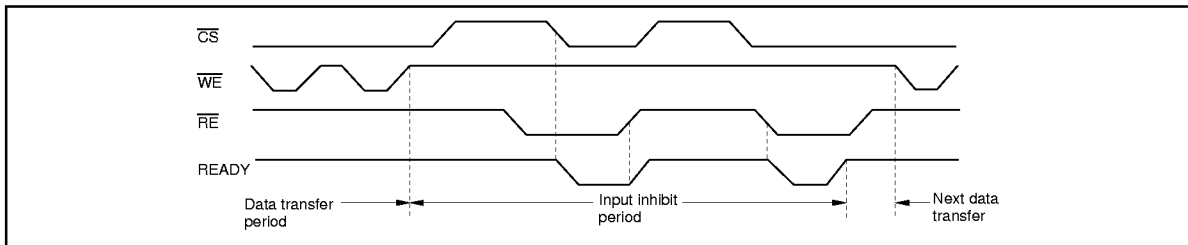

Figure 17 READY Output Timing (When It Is Made Available by \overline{CS} and \overline{RE})
- b. READY is mode available by \overline{CS} and \overline{RE} (Figure 17).